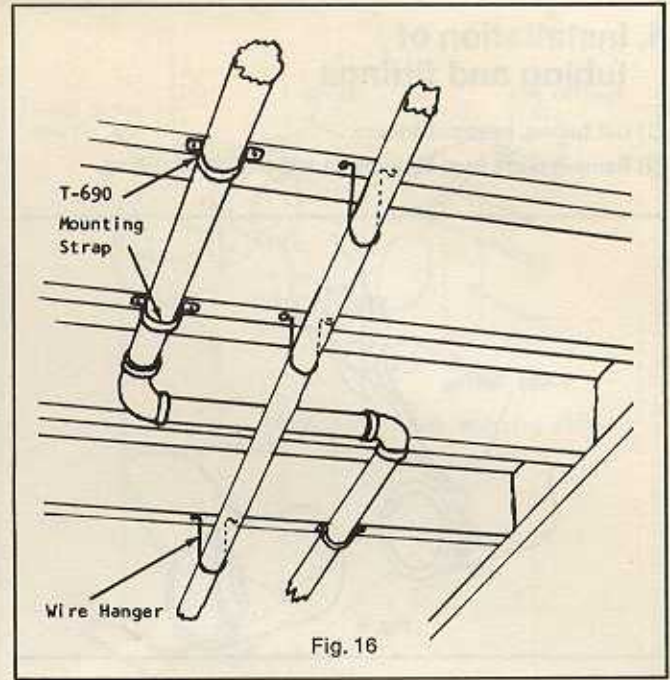

Fig. 16
(10) Supporting Tubing—hand all horizontal tubing runs with proper straps at a maximum of six foot centers. Anchor tubing at all turns to prevent separation or movement. Fig. 16.